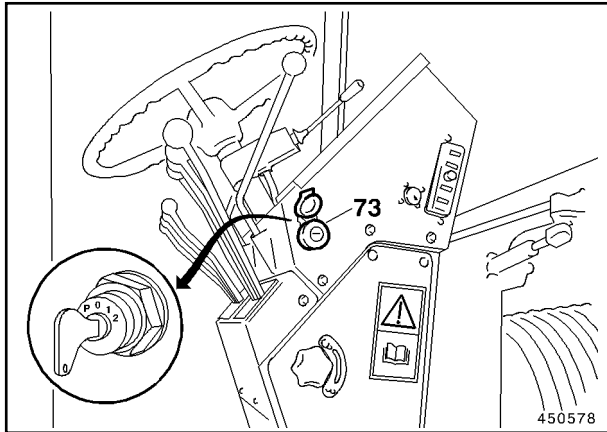

Fig. 1
- With the engine stationary, turn key-switch (73, Fig. 1) to position 1.